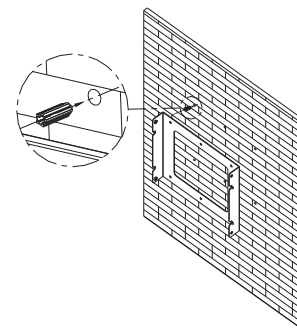

Fig 3.4
- Drill holes for screws while use the mounting frame as Fig 3.4. 4 holes for Growatt 2000HF/2500HF/3000HF.